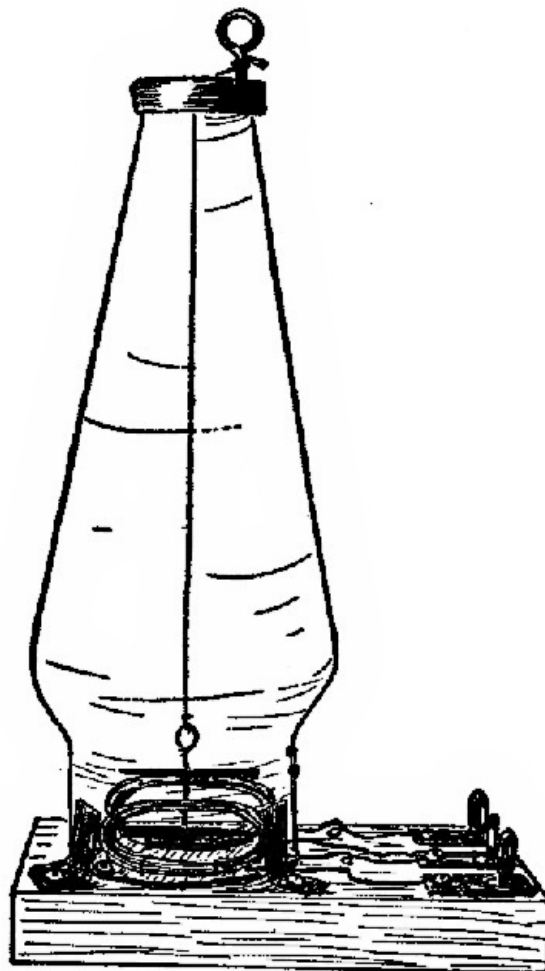

Fig. 88.
**175. Astatic Detector.** Fig. 88. As previously Stated, the sensitiveness of a detector can be made greater by increasing the strength of the coil-field for a given current. This may be done by increasing the number of turns of wire in the coil. The most convenient way will be to use two coils, one on each side of the astatic needle.
**177. The Coils** should be made separately, for convenience. Each should be of 10 ft. No. 30 wire. (See details § 163.) Cut out a round piece of stiff pasteboard, just large enough to go inside of the bottom of the chimney. Fasten the coils to this by sewing (§ 163), or with paraffine, so that they shall be symmetrically located and  $\frac{3}{8}$  in. apart. The pasteboard circle may be fastened to the base with small brass screws. Do not use any iron nails or tacks. In this, all four ends of wire are brought out under the edge of the chimney (Fig. 88). Cut little grooves in the base for the wire to sink into, so that the chimney will rest firmly upon the base all around. The ends of the wires are fastened to three binding-posts.